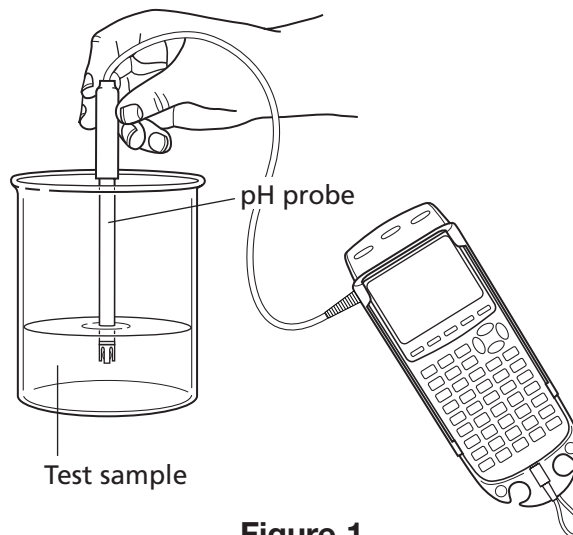

Figure 1
3. Carefully place the pH sensor in the beaker as shown in Figure 1. Allow the pH value reading to stabilize for 15–20 seconds. Record the value in Table 1 for a soil sample or in Table 2 for a water sample.